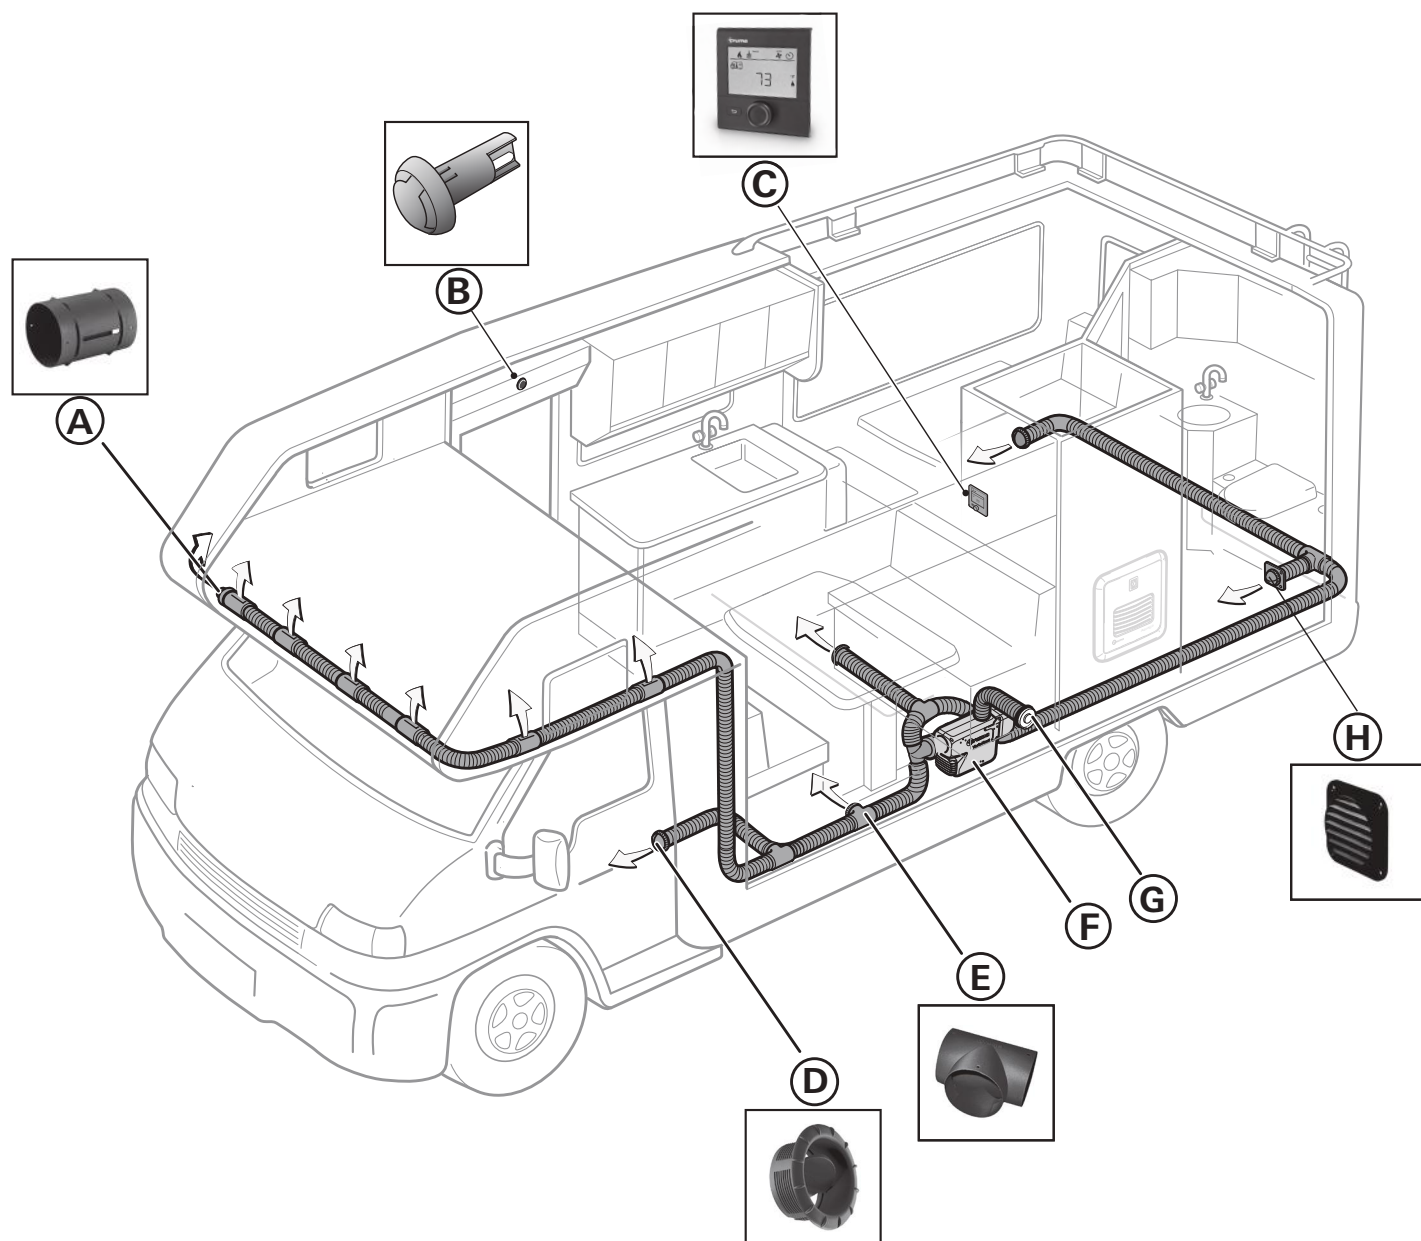

Fig. 1
- The warm air outlets (Fig. 2 – 6), the wall outlet vents (Fig. 1 – H) and the openings for the circulated air intake (Fig. 2 – 7) must be free from obstructions to ensure that the heater functions properly. Any obstructions might cause the VarioHeat to overheat. If this happens, the built-in temperature limiter will interrupt the flow of gas to the VarioHeat. Once the VarioHeat has cooled, it will switch on again automatically.
- Always check the air temperature before varying the Swivel air outlet SCW 2 position (Fig. 1 – H).